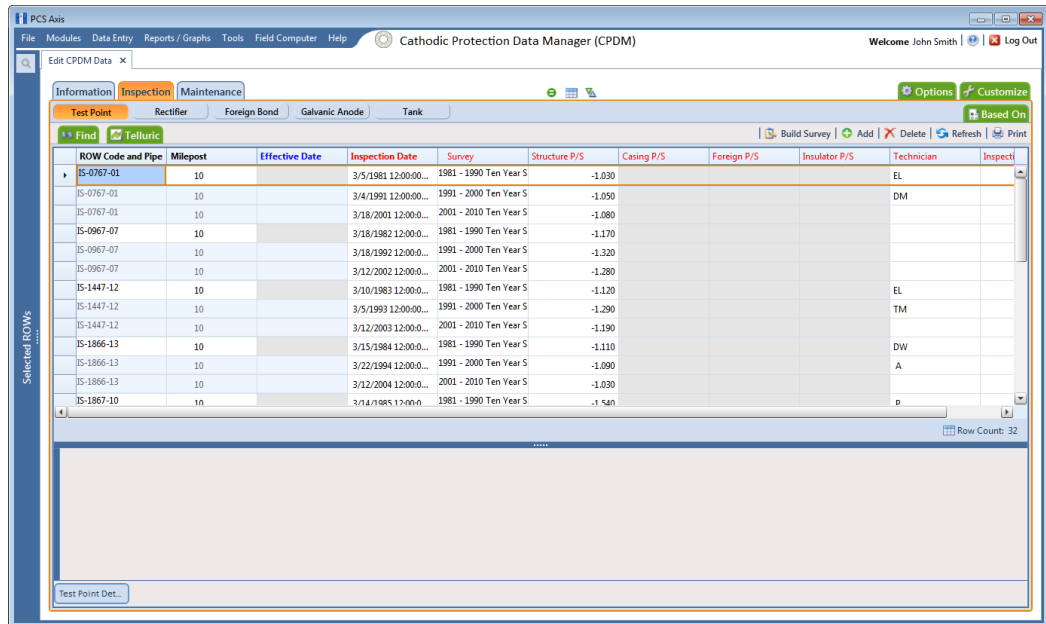

Figure 7-54. Test Point Inspection Grid
- 2 Open the *Edit <module> Data* window. For example, click **Data Entry > Edit CPDM Data** to open the *Edit CPDM Data* window (Figure 7-54).